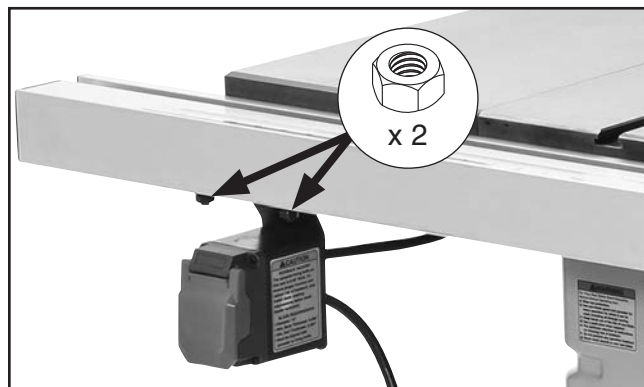

Figure 23. Switch installed.
9. Install switch onto hex bolts from **Step 5** using (2) M8-1.25 hex nuts (see **Figure 23**).